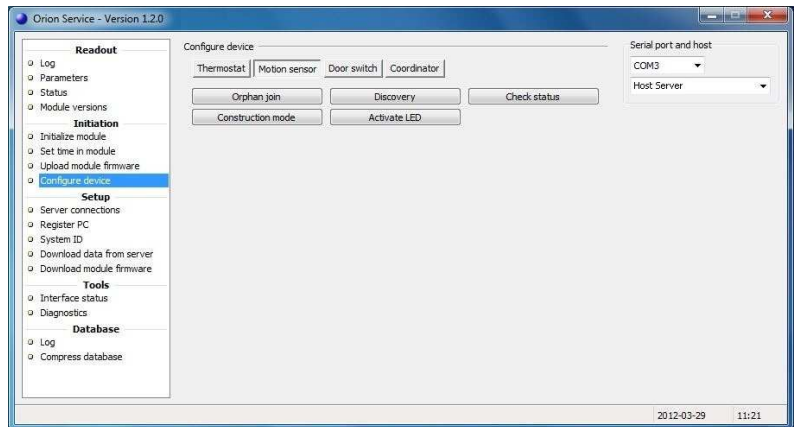

Figure 27
4. Choose the **Motion sensor** tab in the **Configure device** section of Orion Service. Click the **Discovery** button; see Figure 27.